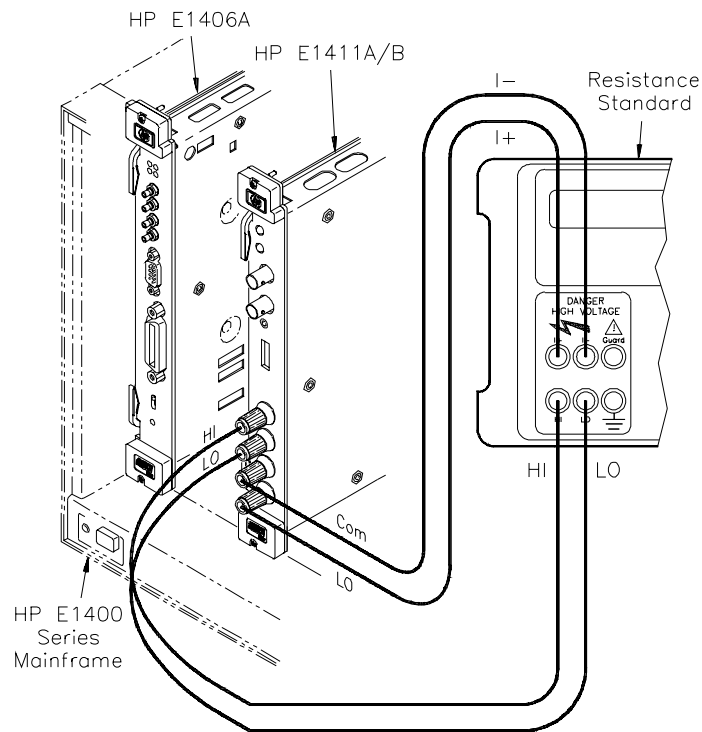

Figure 5-3. Resistance Adjustments Setup
1. Connect the equipment as shown in Figure 5-3